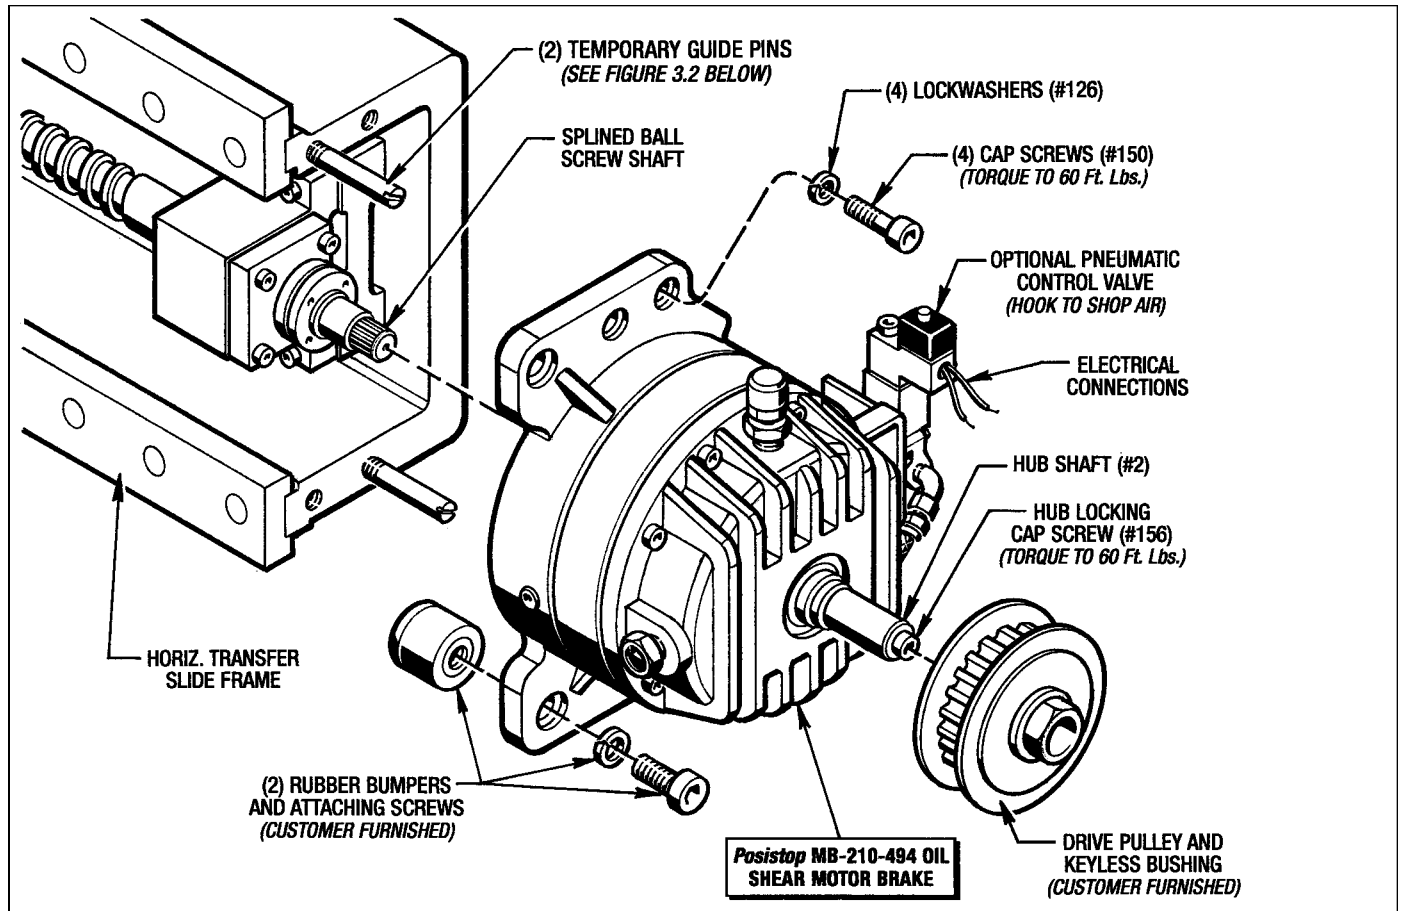

Figure 3.1 - Installation (Horizontal MB-210-494 Brake Shown)
The following **Installation Procedure** applies to all three brakes. (See *Figure 3.1*)
2. Install **(2) Temporary Guide Pins** into the Transfer Slide Frame as shown in *Figure 3.1*.
3. Insert the Ball Screw Shaft into the Collet (#110) and the Brake Assembly over the **(2) Temporary Guide Pins**. Attach the Brake with the **(2) Screws (#150)** and **(2) Lockwashers (#126)**. **Only finger tighten these (2) screws at this time.**
4. Remove the **(2) Temporary Guide Pins** and install the other **(2) Screws (#150)** and **(2) Lockwashers(#126)**.
- Also only finger tighten these (2) screws at this time.**
7. Go back and tighten the (4) Mounting Screws (#150). **Torque to 60 Ft. Lbs.**
8. Install the (2) Bumpers into the (2) appropriate holes as shown in *Figure 3.1*.
NOTE - The Installation Drawing shown above in Figure 3.1 is also applicable for the MB-210-496 (Vertical Brake Down) and the MB-210-497 (Vertical Brake Up) Motor Brakes.